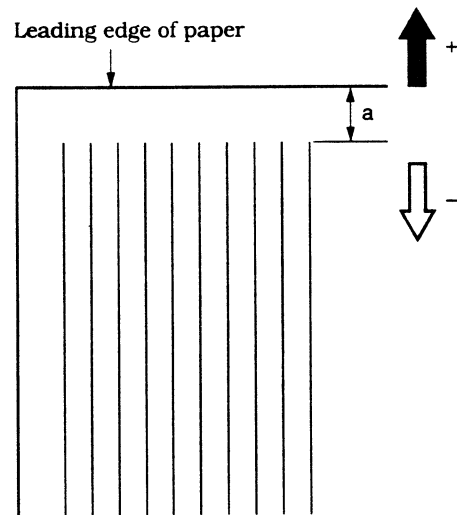

Figure 6-7
- 3) Measure the distance (a) from the leading edge of each sheet to the pattern. (See Figure 6-7) Take the average of the measured distances.